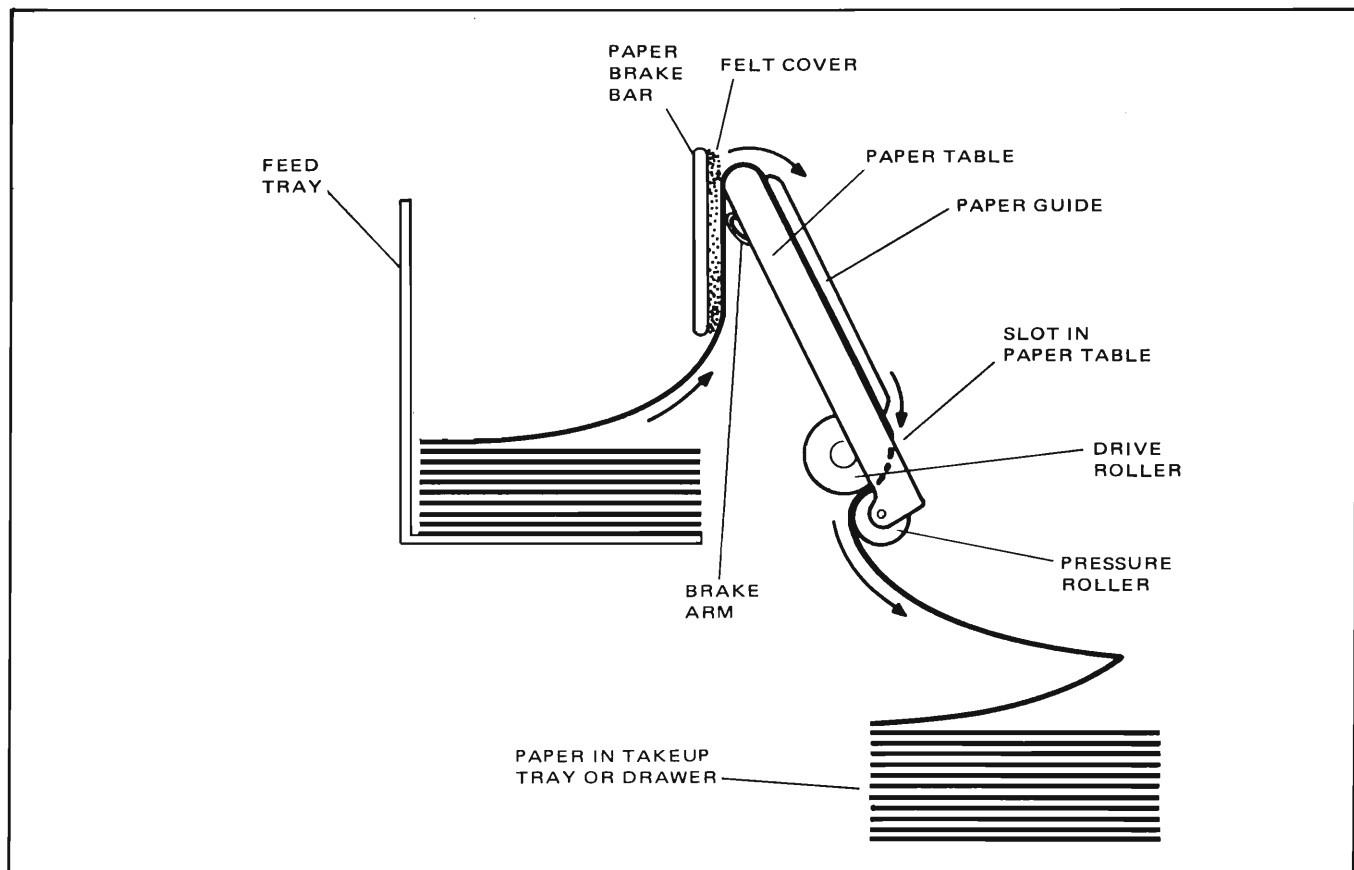

Figure 4-9. Paper Feed Path
4-36. As shown in Figure 4-9, a paper brake arm establishes tension across the felt-covered paper brake bar. From the output of the gearbox, a chain drive runs a rubber drive roller. The drive roller pulls the chart paper at a uniform speed, slippage being prevented by a pressure roller that causes the paper to grip the drive roller. After the Z-fold paper leaves the drive roller, it folds sheet by sheet onto a takeup tray provided with the bench-top enclosure, or into a takeup tray provided with the system cabinet or portable cart. The consecutively numbered chart pages indicate the amount of paper remaining, and can be used as an index for instant access to any part of the recording.
- b. **Paper tension:** Run the Recorder at the highest speed, and inspect paper travel over the platen at the paper table (See Figure 4-9). The paper should travel snugly over the paper table. Adjust the paper brake (Paragraph 5-24) if necessary, or clean or replace the brake felt (Paragraph 5-27).